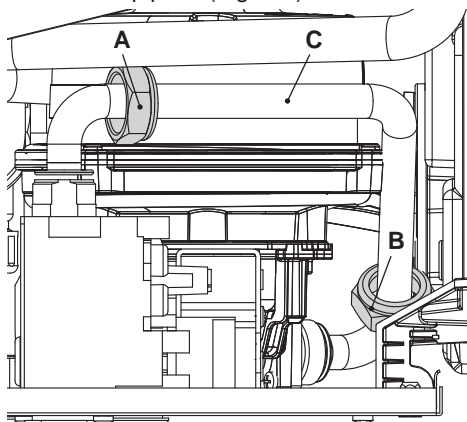

Fig. 8.1
- Unscrew the connector A and B and remove the pipe C (Fig. 8.1).